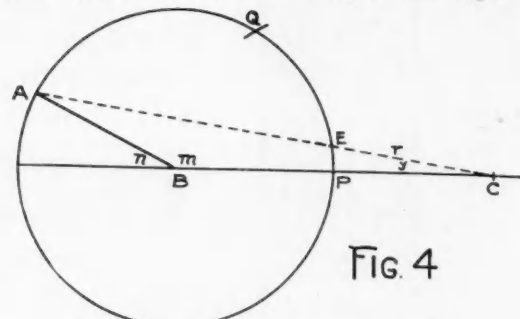

FIG. 4
But there is a much simpler way of solving the problem, derived by the following reasoning process (see Fig. 4):
6. The formula $\frac{1}{3}m = 60^\circ - \frac{1}{3}n$ does not apply only to m and n in the case illustrated by Fig. 4, for in all cases where m and n are supplementary angles, $\frac{1}{3}m = 60^\circ - \frac{1}{3}n$, and $\frac{1}{3}n = 60^\circ - \frac{1}{3}m$; because since $m = 180^\circ - n$, and $n = 180^\circ - m$, therefore $\frac{1}{3}m = 60^\circ - \frac{1}{3}n$, and $\frac{1}{3}n = 60^\circ - \frac{1}{3}m$.